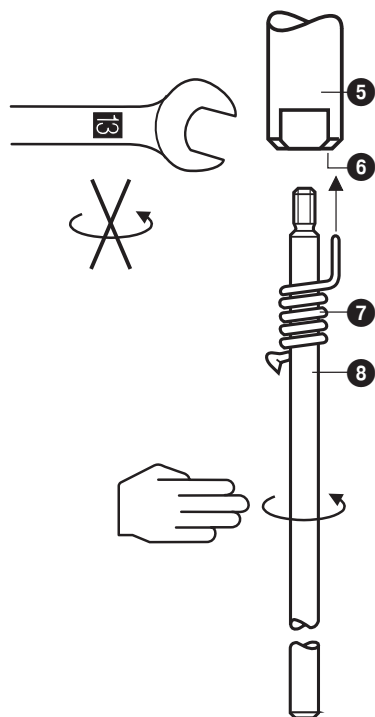
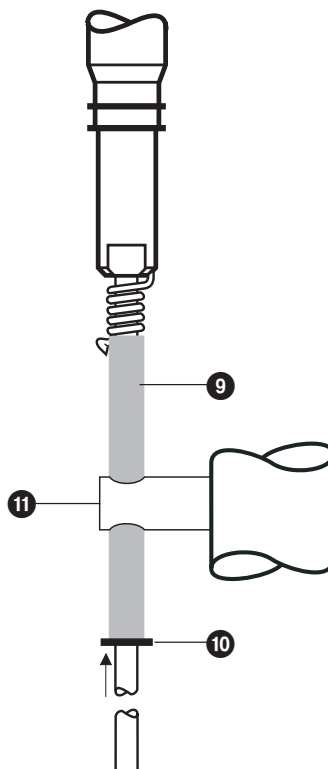

Fig. 5
Fig. 6
1. Mark low water level on electrode tip **8** and slide locking spring **7** out of the small hole **6** of the measuring electrode **5**. Also mark the low water level and the level 150 mm above low water **4** also on the protection tube of the level transmitter. **Fig. 5, Fig. 6**